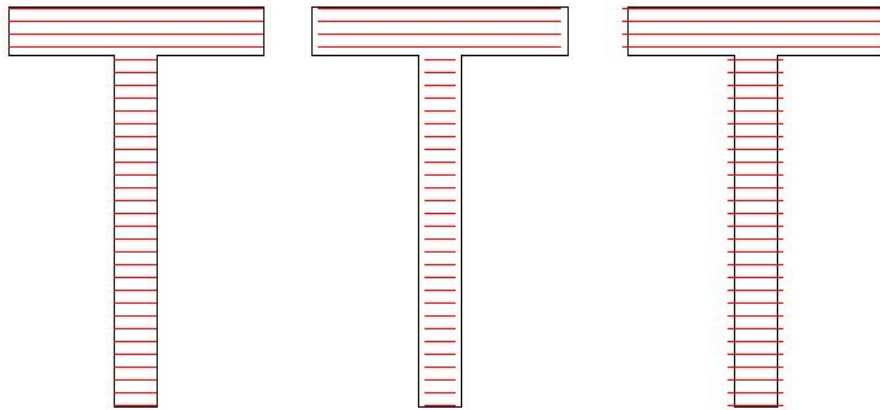

Figure 3-9 Liner reduction
**Linereduction:** The hatch line both sides reduction. (Figure 3-9)